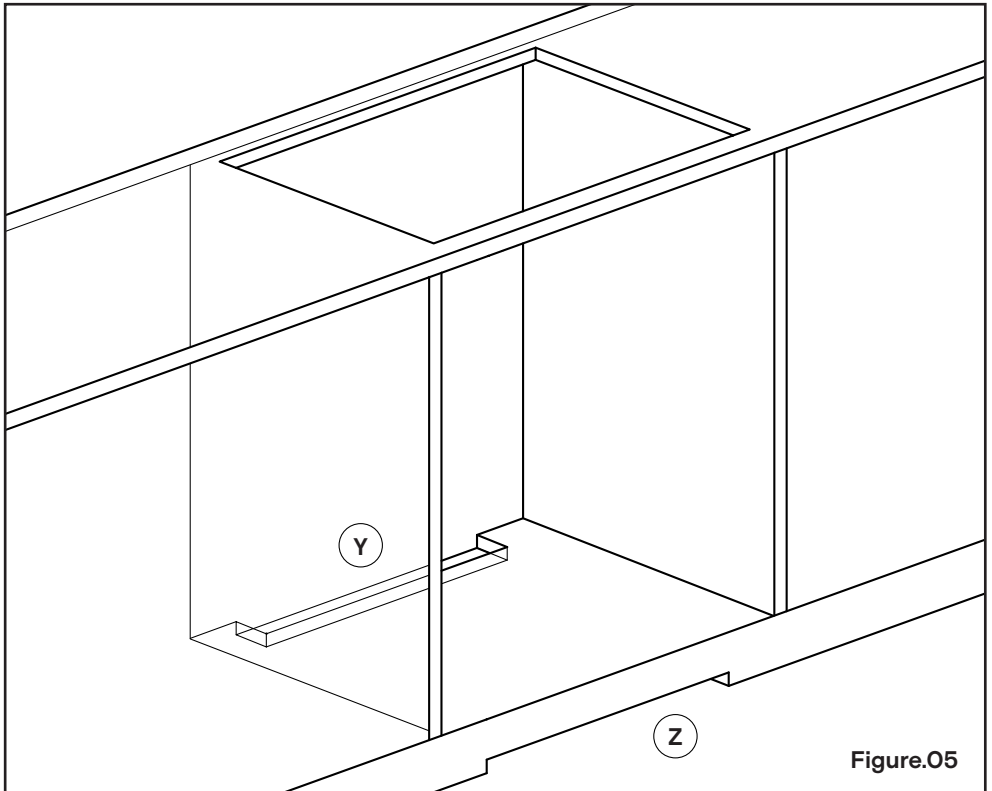

Figure.05
- › If the minimum clearance of 13/16" (20 mm) is not provided at the rear of the cabinet, you must create an opening on the underside. **[Figure.05] [Y]**
- › An optional bottom cabinet opening can improve ventilation airflow. **[Figure.05] [Z]**